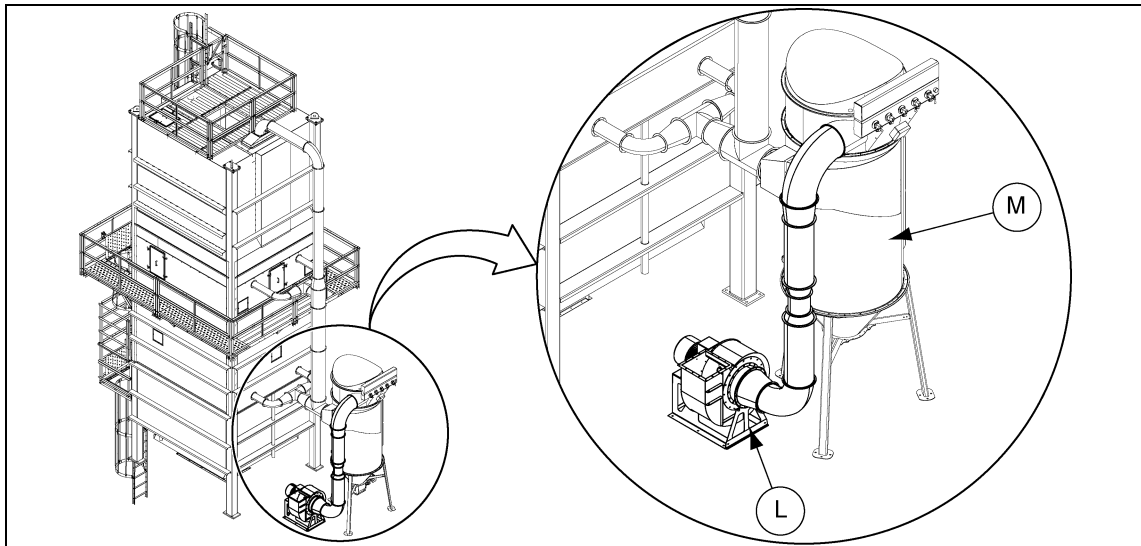

Figure 2P
5. Position the fan (M) and connect to the filter with the venturi duct section (L). (See Figure 2P.)